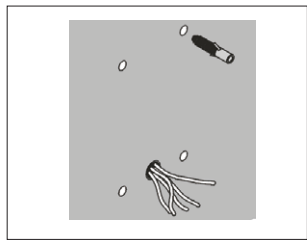

Fig. 4
- 4 - Locate the wall anchors ( Fig. 4);